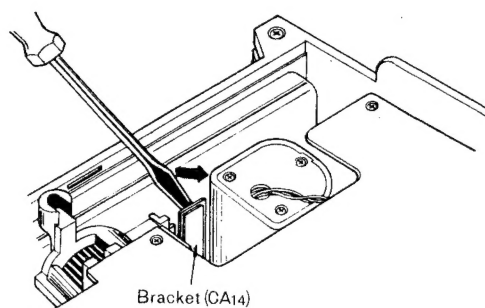

Fig. 3
2. Unsolder three (3) lead wires between core antenna and PC board at PC board side.
5. Remove bracket (CA 14) by driver as illustrated in fig. 3.